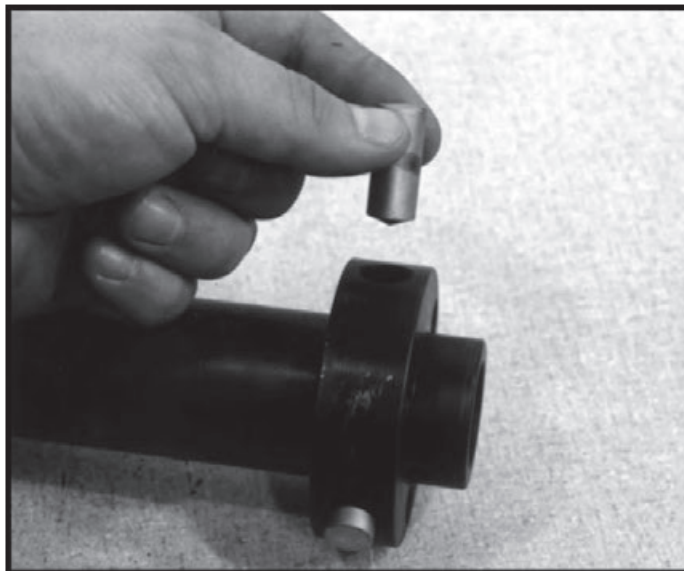

Figure 3-10.
2. Insert the solid leg set # 56-135-12 in the mandrel head POINT SIDE DOWN (Figure 3-10)